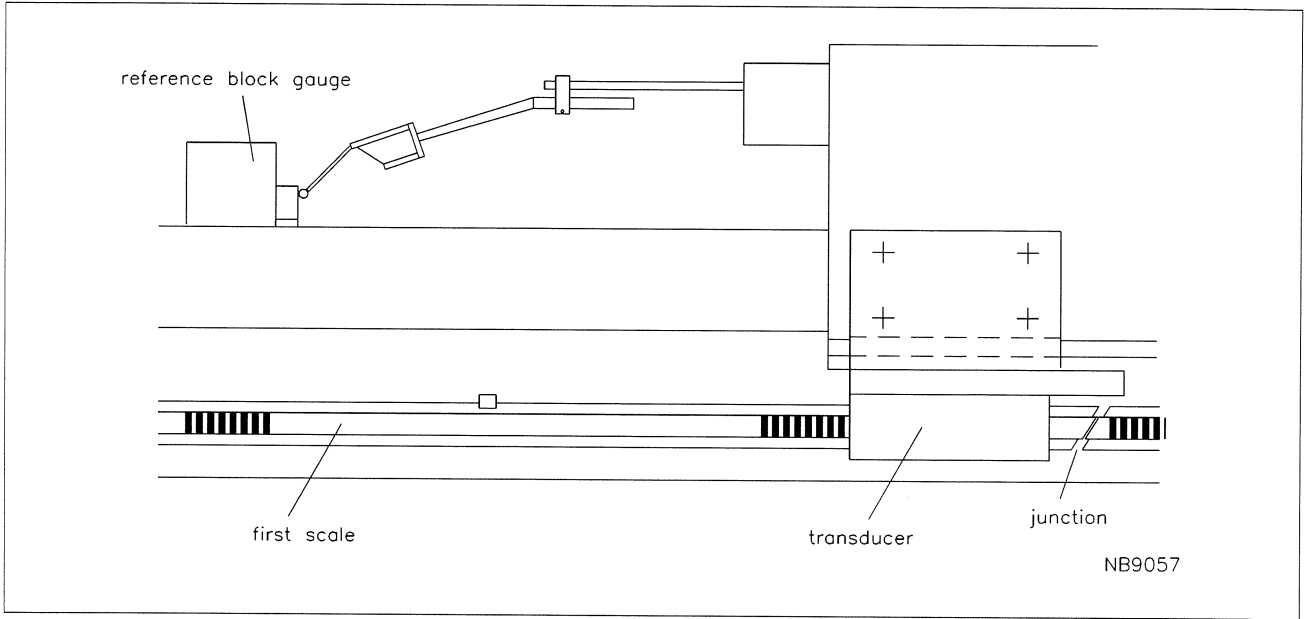

Fig. 29 Final adjustment using block gauges
- Approach reference block gauge by moving the slide to the left and set the dial gauge to read zero (see figure 29)
- Fit a reference block and a dial gauge to the machine tool and guide way. (also shown in figure 29).